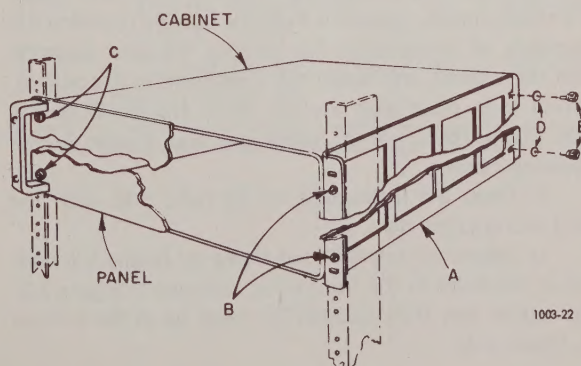

Figure 2-2. Relay-rack mounting.
- Place the right-side rack support (A, Figure 2-2) on the right side of the cabinet with the smaller flange forward and flush with the front edge of the cabinet. The bottom of the cabinet must be resting on the long flange.